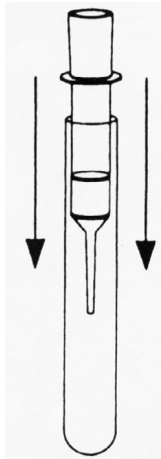

Fig. 1:Mounting the sealing ring to the column.
- 5 Mount the sealing ring to the column (Fig. 1) to fix the column in the collection tube.